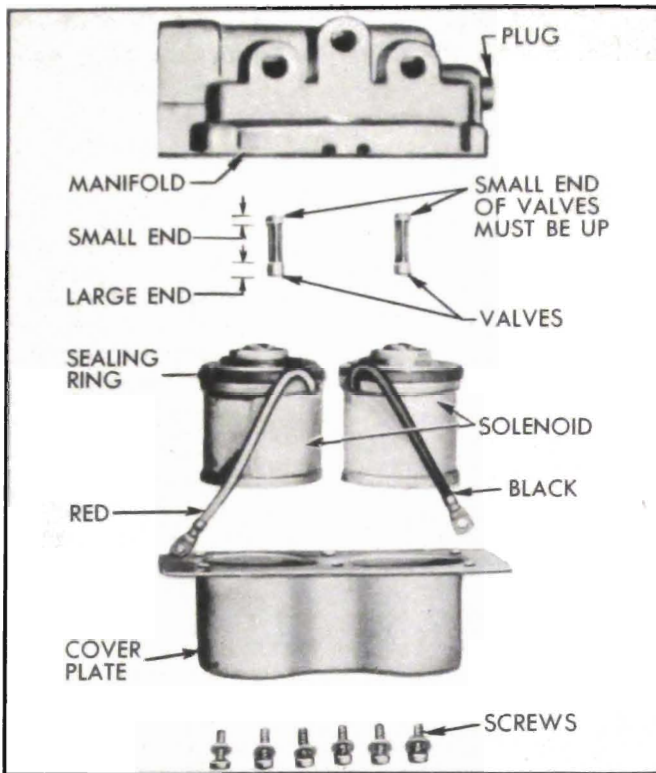

Figure 13-59—Top Control Valve Disassembled
1. Remove solenoid cover plate, then remove each solenoid by rocking gently until the rubber sealing ring is freed from the pressure manifold. See figure 13-59.
5. Insert both valves into pressure manifold, *small end first*. See figure 13-59. **CAUTION:** *If one valve is installed with large end first, the top will operate in one direction only and cannot be manually moved in either direction. If both valves are inverted the top cannot be operated by power or manually in either direction.*
6. Install solenoid with *red* wire in manifold opening nearest the pressure and return pipe ports and install solenoid with *black* wire in opening nearest the access hole plug. Use care to avoid damaging the rubber sealing rings during installation. See figure 13-59. Install solenoid cover plate.